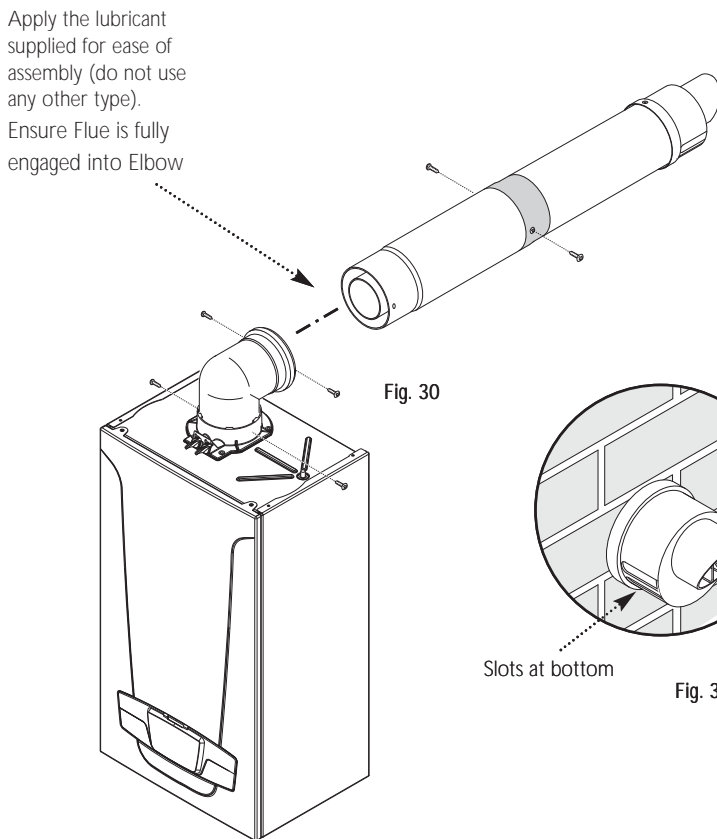
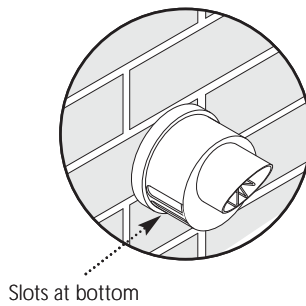

Fig. 30
Fig. 31
11. Draw the flue back through the wall and engage it in the elbow. It may be necessary to lubricate to ease assembly of the elbow and flue (Fig. 30).
12. Ensure that the terminal is positioned with the slots to the bottom (Fig. 31). Secure the flue to the elbow with the screws supplied (Fig. 30).